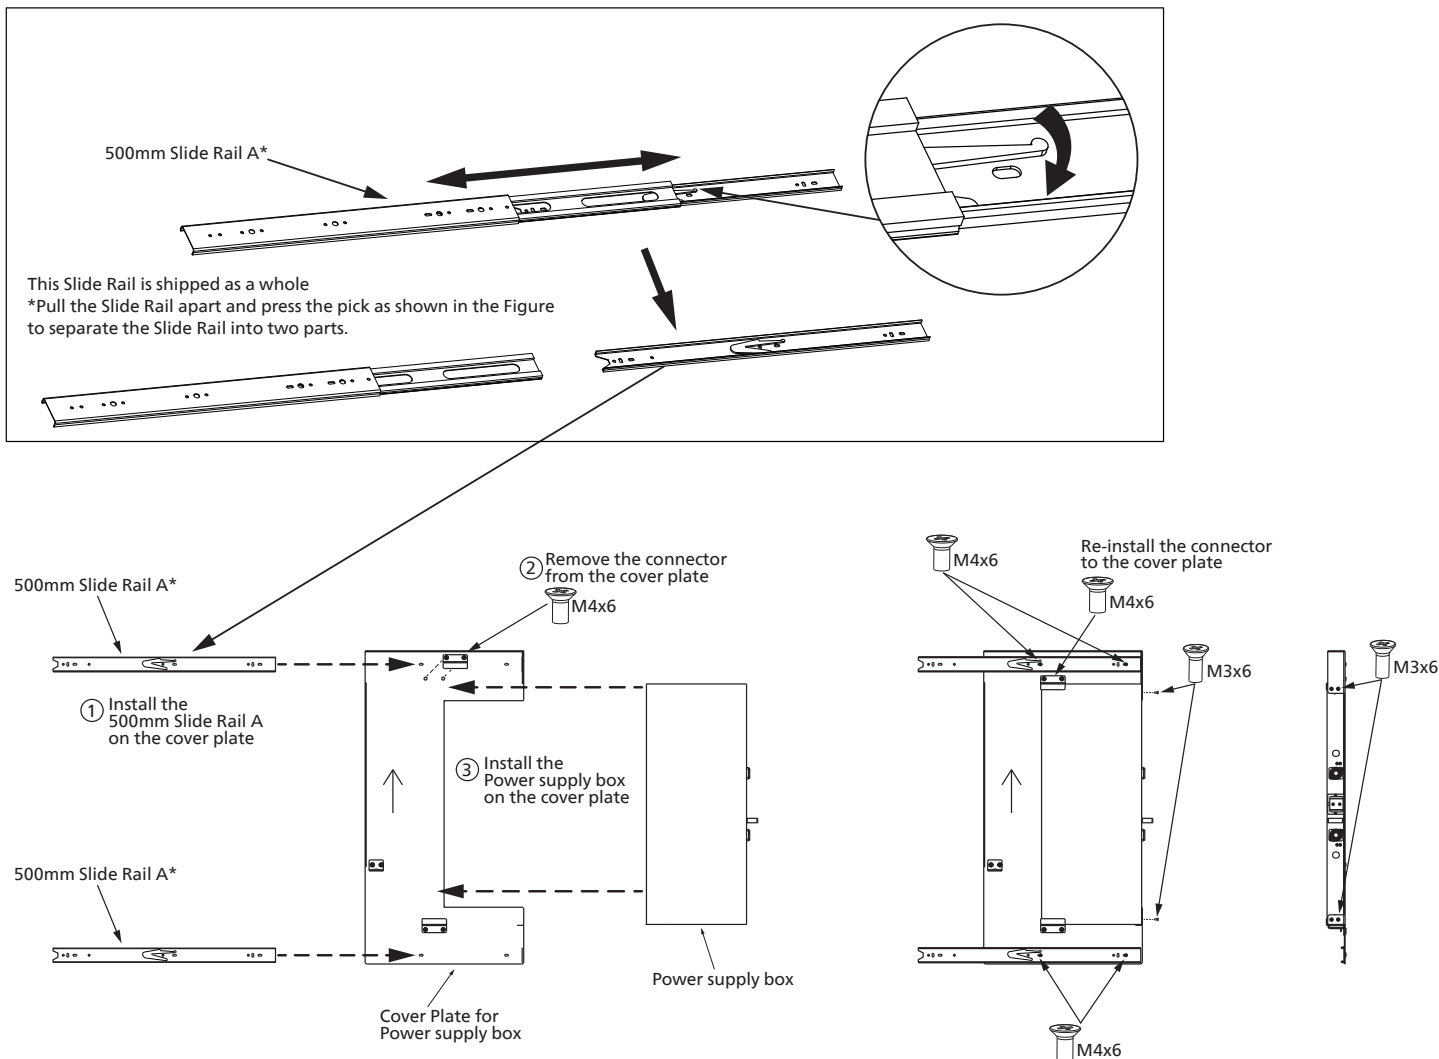

Figure 12 Install the Power supply box
9. Install the Power supply box and slide rails on the cover plate. Remove the connector from the cover plate and install the box on it, then tighten them with screws at the marked hole position, as shown in Figure 12.